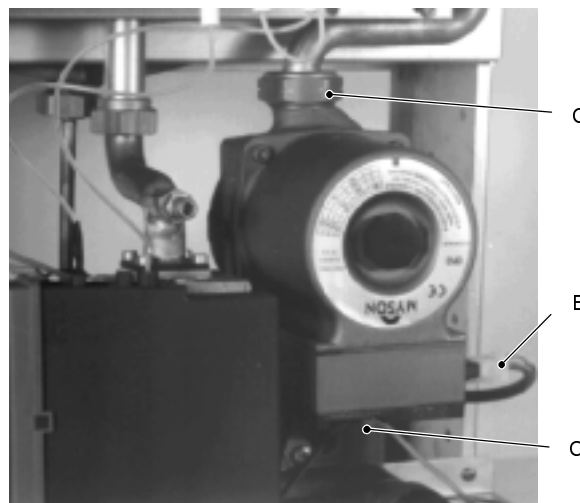

fig. 22
- 3 Disconnect the connector B (fig. 22).